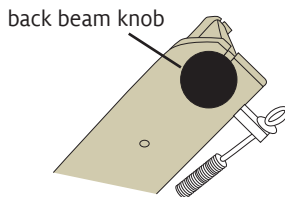

FIGURE 13: BACK BEAM
24. The back beam can be removed for better access to the heddles when you thread the loom. Loosen the back beam knobs on each side of the back beam and lift the beam out (Figure 13). To replace the back beam, slide the beam back into the legs and tighten the knobs.